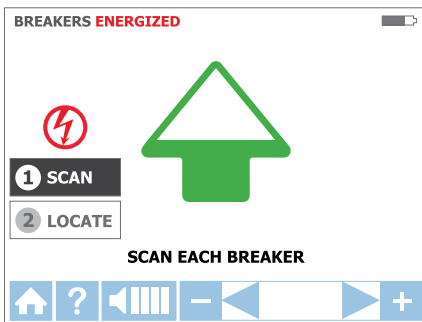

Figure 3.3c: SCAN mode
1. The unit will automatically start in 1 **SCAN** mode (Figure 3.3c).